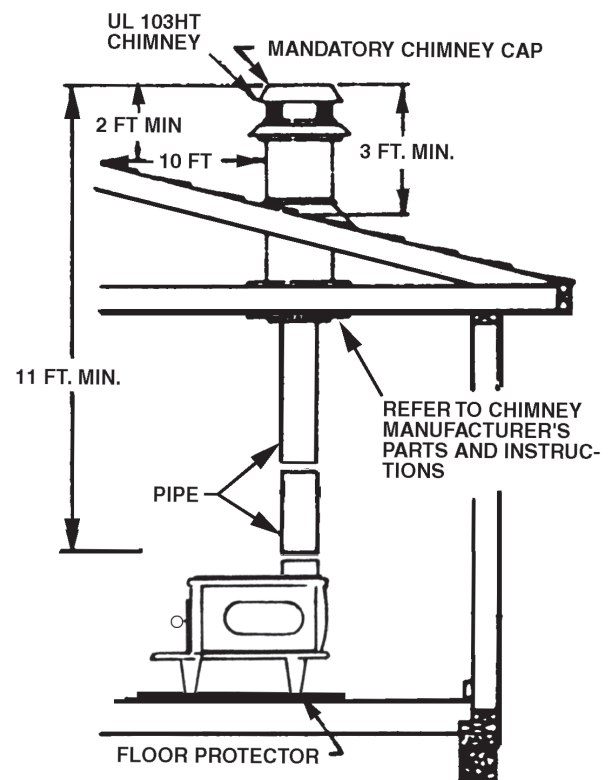

Fig. 7 - Chimney Construction Through Attic Space
Carefully follow chimney manufacturer's instructions. Use only a listed chimney. If your chimney starts at the ceiling (figures 7 & 8) you will need enough 6” round black stove pipe to reach the ceiling. The top of the chimney must be at least three (3) feet above the roof and be at least two (2) feet higher than any point of the roof within ten (10) feet (figure 7 – 9).